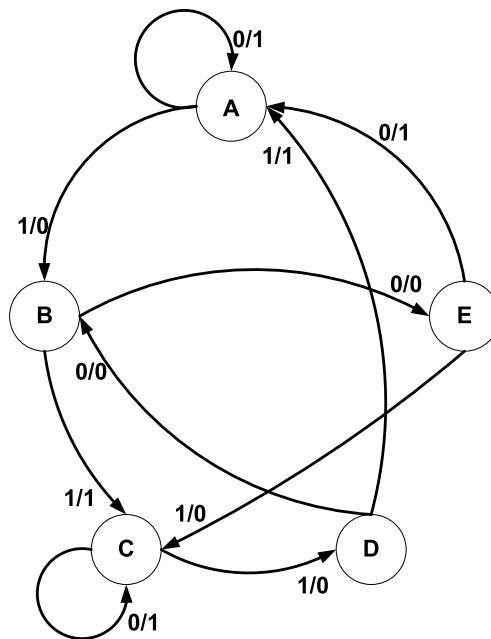

Fig 1. FSM for Prob. 5
5. The finite state machine in Fig.1 has a single input, a single output, and 5 states.